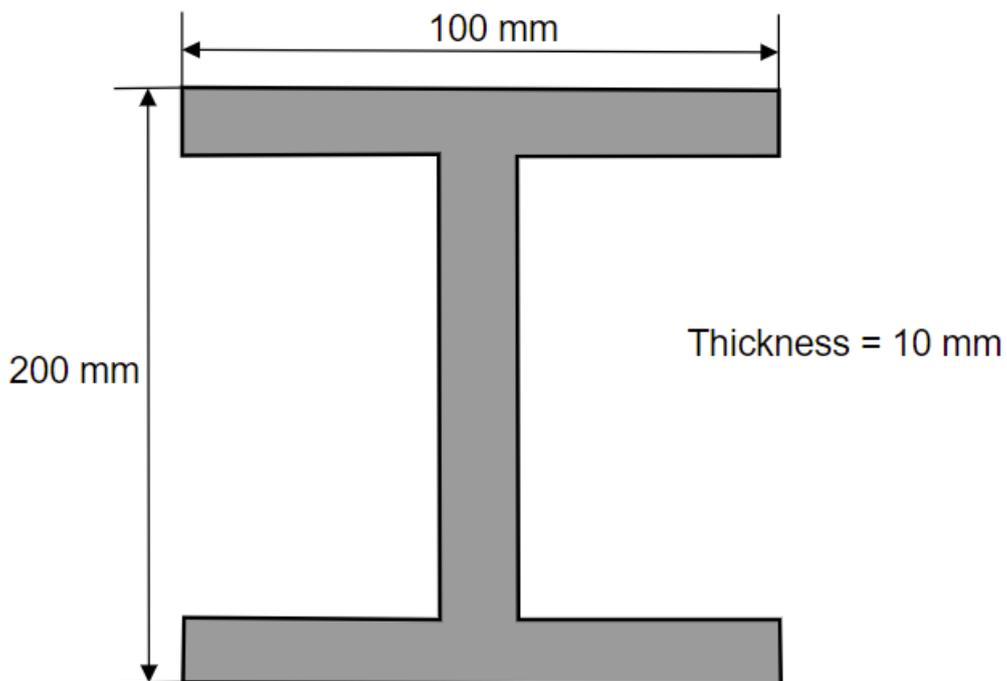

Figure Q2: I-section
b) Calculate the total area and the area moment of inertia (or second moment of area) about the horizontal axis passing through the centroid for the following I section (**Figure Q2**).